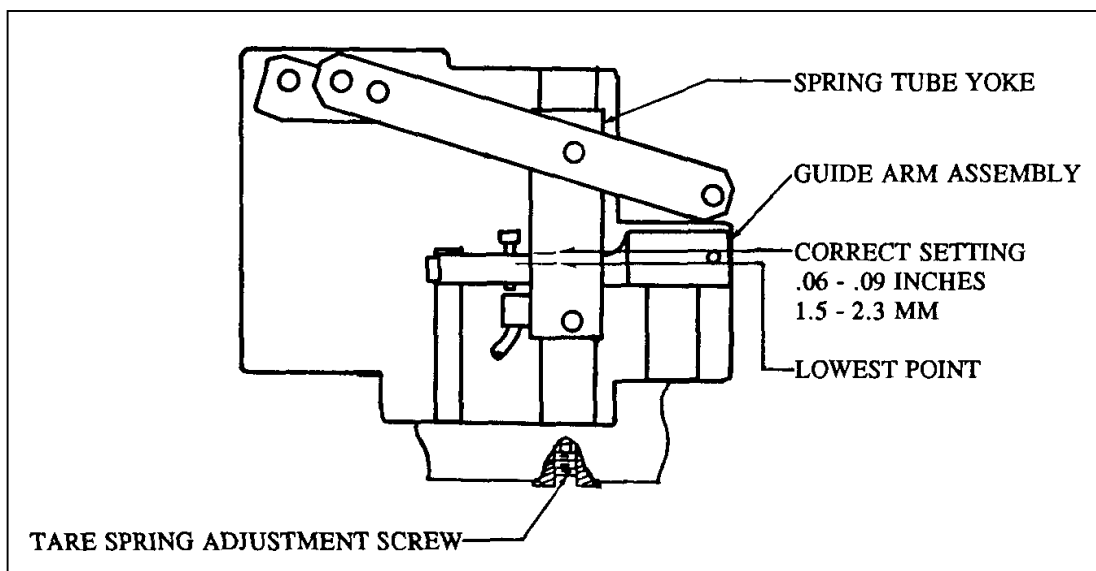

Figure 5-2. Tare Spring Adjustment
- 3 Turn the TARE SPRING ADJUSTMENT SCREW clockwise until the GUIDE ARM ASSEMBLY moves up from its lowest point by .06 to .09 inches (1.5 to 2.3 mm) as shown in Figure 5-2.